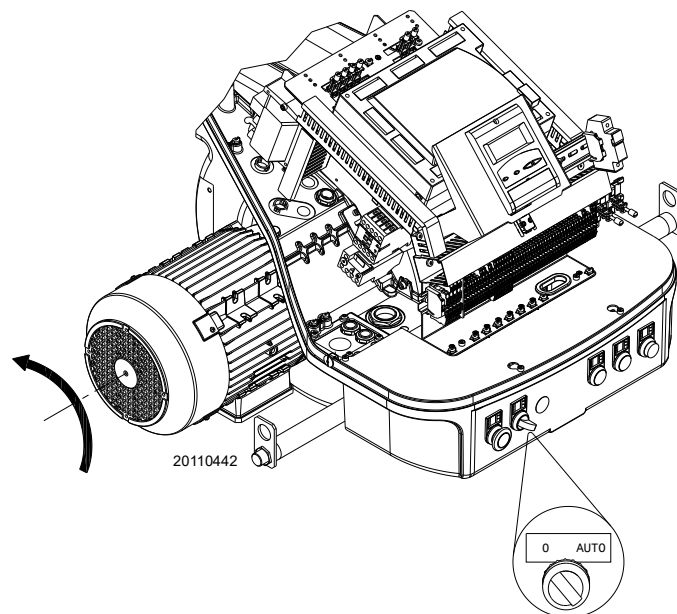

Fig. 26
- Bleed the air from the piping of the gas train, connecting a plastic tube to the pressure test point 1)(Fig. 26) of the minimum gas pressure switch. Take the vent tube outside the building so you can notice the smell of gas.
Close the thermostats/pressure switches and turn the switch to Fig. 26 "AUTO".
If voltage is present, then **immediately** stop the burner and check the electrical wiring. When the burner starts, check the direction of the rotation of the motor, as shown in Fig. 26.
- place the switch of Fig. 26 in position "0" and wait for the flame control to carry out the switch-off phase;
- removing the cover and working on the switch "0-AUTO" of Fig. 26 at page 29;